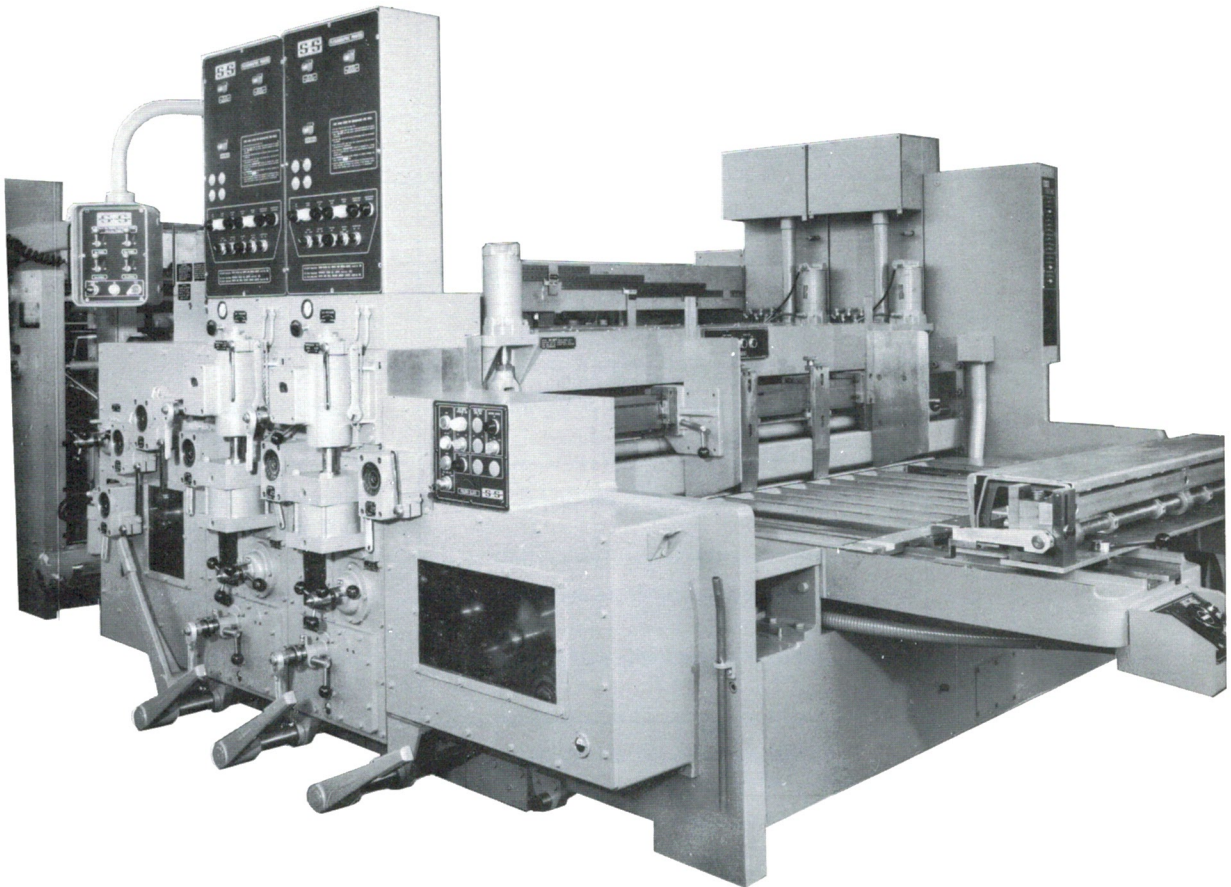

FIGURE 2-4. 701 IN CLOSED POSITION
C. CLOSING PROCEDURE (Figure 2-4)